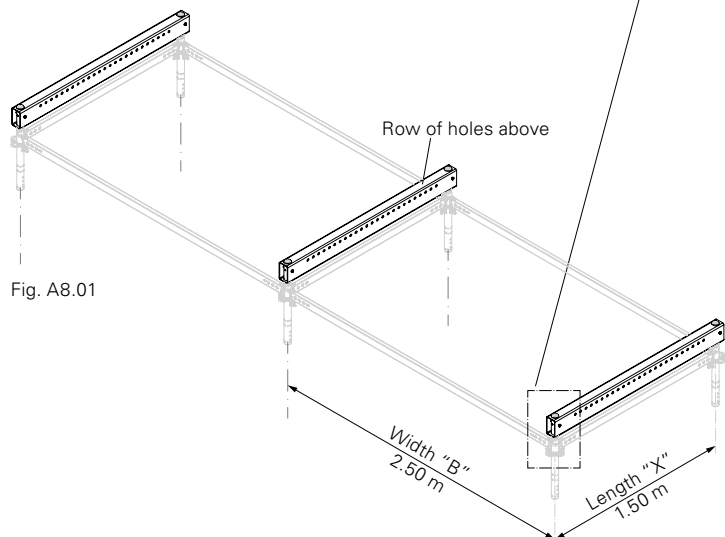

Fig. A8.01
1. Fit the ledger (**28**) onto the ends of the standard – 3x. Ensure that the row of holes is at the top. (Fig. A8.01 + A8.01a)